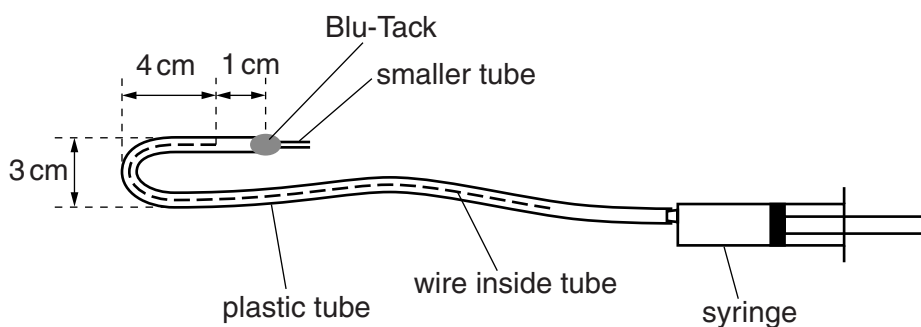

Fig. 2.1
- 1 Assemble the apparatus as shown in Fig. 2.1.